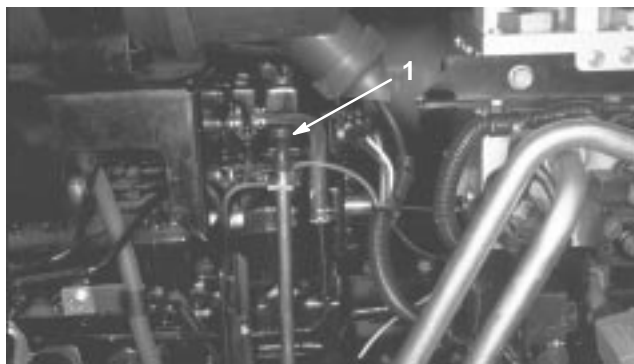
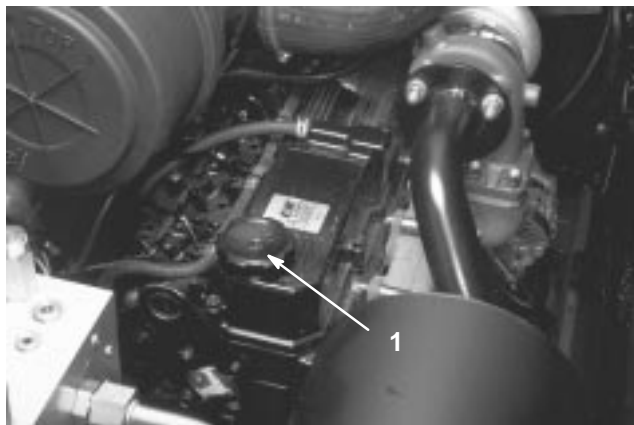

Figure 3
Figure 4
3. Remove dipstick (Fig. 3), wipe with a clean rag, and insert into tube until fully seated. Remove dipstick from tube and check oil level. If oil level is low, remove filler cap (Fig. 4). Add proper type of oil until level is to top notch on dipstick. **Do not overfill.**